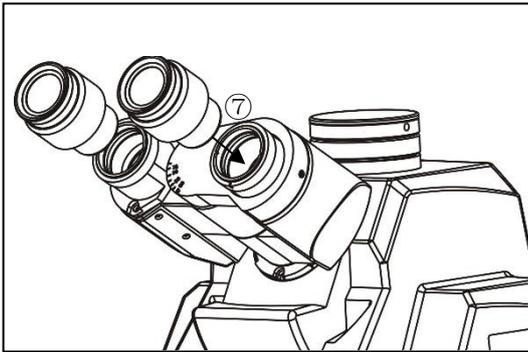

Fig.7
4-2-6 Eyepiece installation (Fig.7)
Insert the eyepiece into the viewing eyepiece tube to the side according to the path of Num ⑦ as shown by Fig.7.